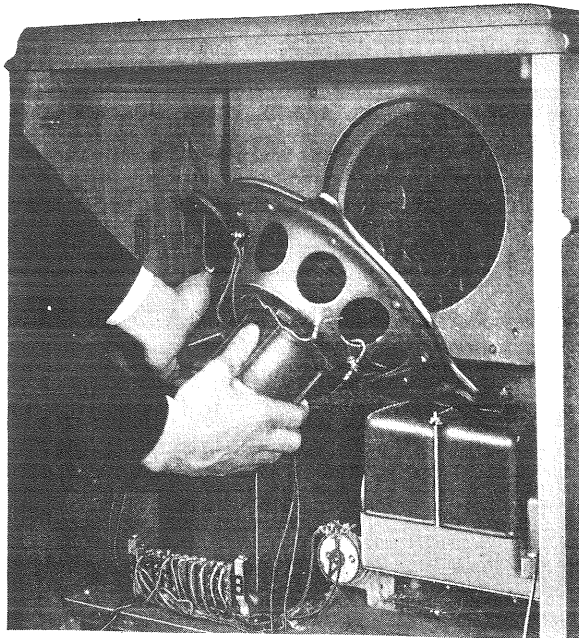

Figure 26—Removing reproducer unit from Radiola 46
- (c) Remove the four screws that hold the reproducer assembly to the baffle board, being careful to hold the assembly to prevent falling. It may now be removed to a place convenient for work and any necessary repairs made (Figure 26).